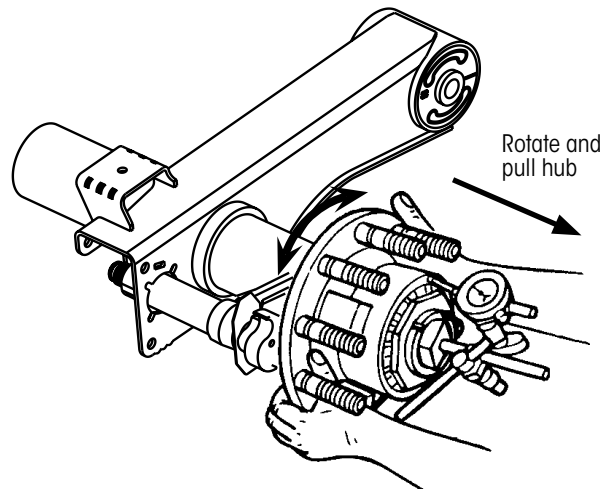

Figure 8: Checking outward end-play
9. While still grasping hub (Figure 8) pull hub outward while rotating hub slightly in both directions (between two hub cap fastener holes) until dial indicator reading remains constant. Record reading.